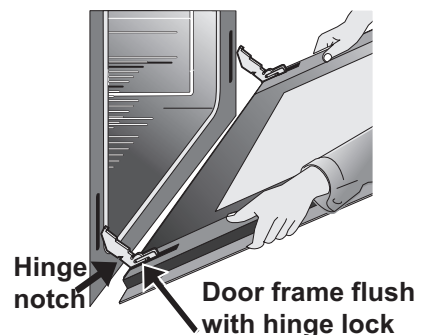

Figure 44: Replacement and location of hinge arm and roller pin
4. Pull the bottom of the door toward you while rotating the top of the door toward the appliance to completely disengage the hinge levers (Figure 44).
1. Firmly grasp both sides of oven door along the door sides. Do not use the oven door handle (Figure 44).
2. Hold the oven door at the same angle as the removal position. Carefully insert the hinge levers into the oven frame until you feel the hinge levers are seated into the hinge notches. The hinge arms must be fully seated into the hinge notches before the oven door can be fully opened. (Figure 44).